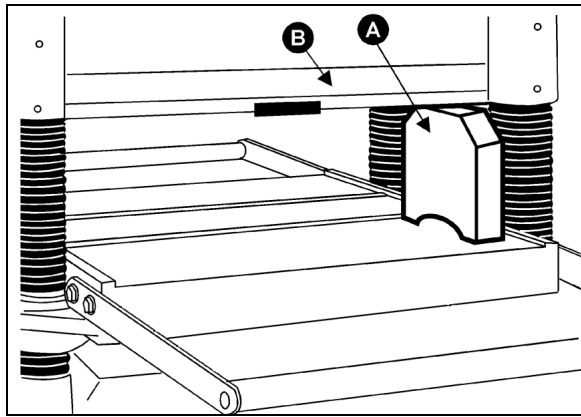

Figure 25
- Turn the handwheel clockwise; raising the cutterhead assembly high enough to place the gauge block (A, Fig. 25) on the work table under one end of the head casting (B, Fig. 25).